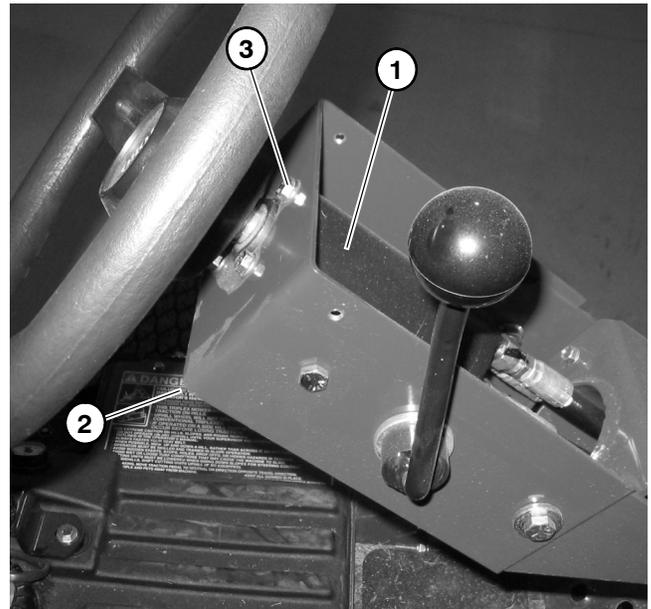

Figure 76
6. Remove the four (4) flange screws securing the steering control valve to the steering valve bracket and remove the valve from the bracket (Fig. 76).